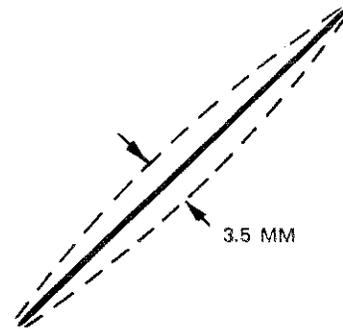

Figure 4-4. Phase-shift Measurement
- d. While watching diagonal trace on 1340A CRT, increase frequency until trace separation is 3.5 mm (see figure 4-4).